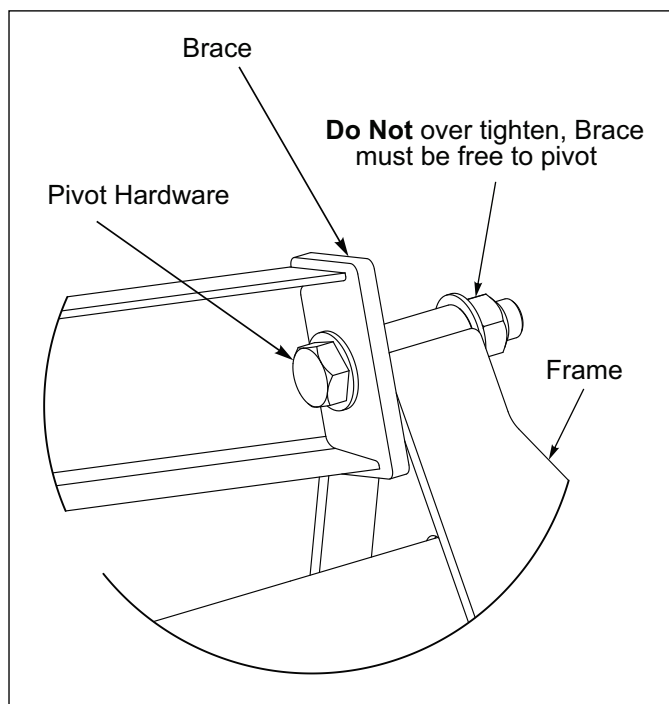

Figure 2-6: Frame Brace Lugs
4. Attach the Brace to the inside of the Frame Brace Lug. Slide Flat Washer onto 1-8 x 5-1/2 Bolt and insert bolt through Brace. Add another Flat Washer and slide Bolt through Frame Brace Lug. Add Flat Washers and Locknut, tighten so that the Frame is free to pivot on the Drawbar. Repeat for the opposite side. **See Figure 2-6.**